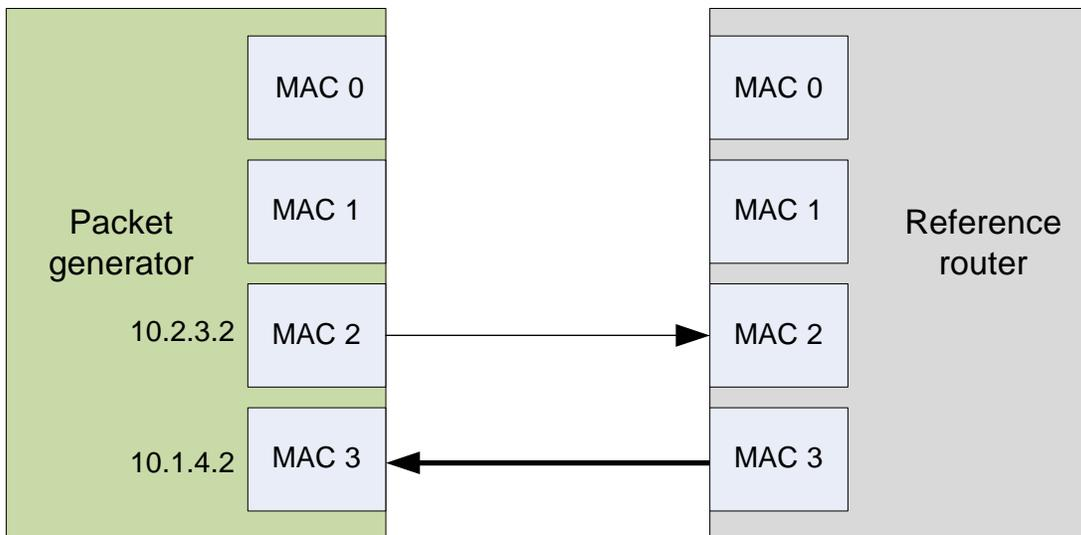

Figure 14: Reference Router Test Setup
3. The test topology is shown in Figure 14.
4. The test topology is shown in Figure 14.
When the topology as shown in Figure 14 is used, the packet transmitted at line rate (1Gbps) captured at port 3 of packet generator is illustrated in Figure 19.